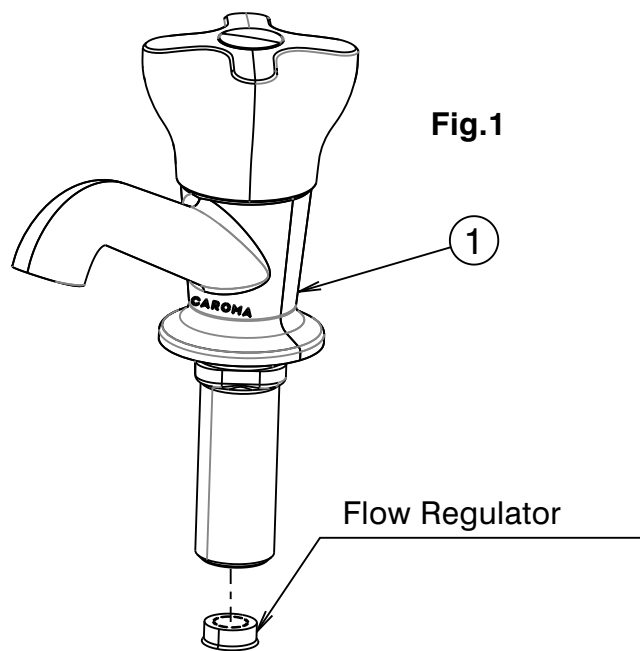

Fig.1
- \* Body (1) is fitted with a flow regulator. This low flow rate may not be suitable for connection to some Instantaneous Gas Water Heaters, some Tempering Valves, some Solar Water Heaters & some Thermostatic Mixing Valves. Check with the manufacturers of these products. The flow regulator can be accessed as shown (Fig.1).